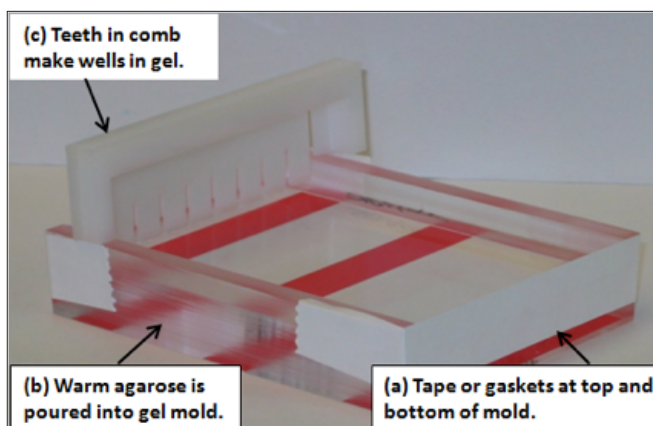

Figure 3.2: Procedures for Pouring an Agarose DNA Gel.
- Ask your teacher about the proper procedure for pouring a gel with your gel apparatus. This will usually involve the following steps (also shown in **Figure 3.2**):